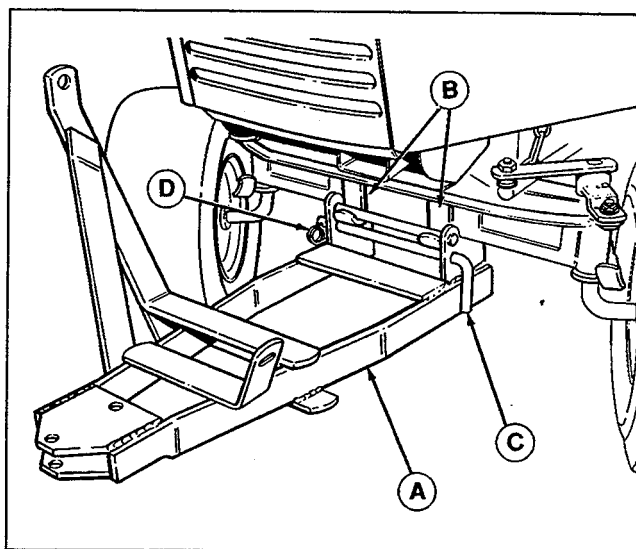

Figure 10.
3. See Figure 10. Position the push bar hitch (A) into the tractor frame brackets (B). Secure push bar with pin (C) and safety clip (D).